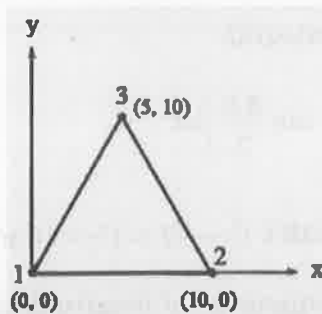

Figure 4
- (b) Evaluate the element stiffness matrix for the triangular element shown in figure 4, under plane stress conditions. Take $E = 2 \times 10^5 \text{ N/mm}^2$, $\nu = 0.3$, $t = 10 \text{ mm}$.